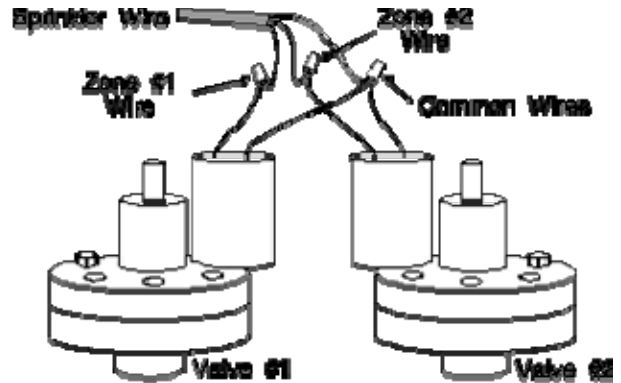

fig.1
2. Connect the common wires from all the valves to one of the color-coded sprinkler wires (usually the white wire). See *fig. 1*